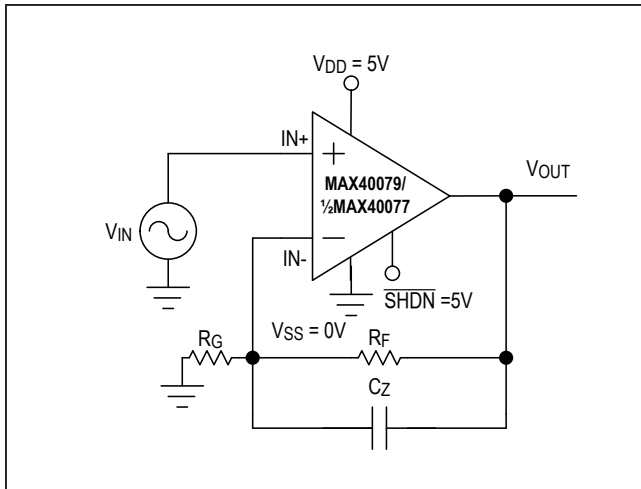

Figure 1. Adding Feed-Forward Compensation
The amplifiers input-referred voltage noise density is dominated by flicker noise (also known as 1/f noise) at lower frequencies and by thermal noise at higher frequencies. Overall thermal noise contribution is affected by the parallel combination of resistive feedback network ( $R_F || R_G$ ) depicted in Figure 1. These resistors should be reduced in cases where system bandwidth is large and thermal noise is dominant. Noise contribution factor can be reduced with increased gain settings.
The amplifier’s input capacitance is 7pF and if the resistance seen by the inverting input is large (Figure 1) as a result of feedback network, this resistance and capacitance combination can introduce a pole within the amplifier’s bandwidth resulting in reduced phase margin. Compensate the reduced phase margin by introducing a feed-forward capacitor (CZ) between the inverting input and the output (shown in Figure 1). This effectively cancels the pole from the inverting input of the amplifier. Choose the value of CZ as follows: